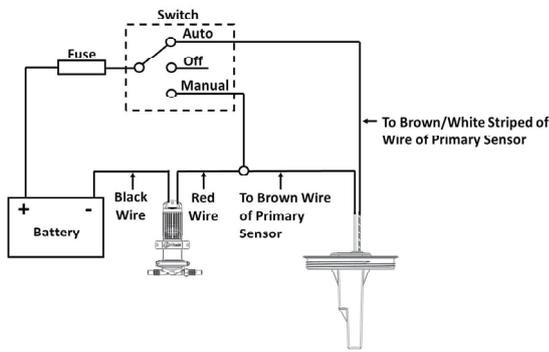
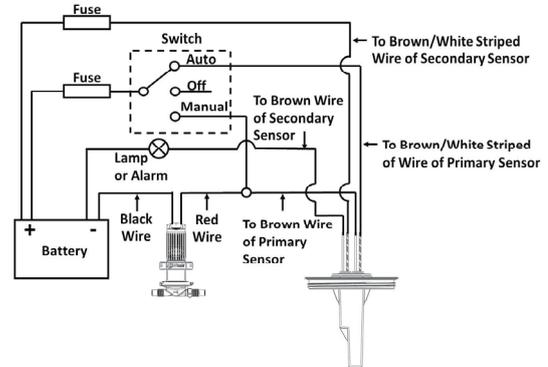

Figure 8A Wiring Diagram - for Single Sensor Models
Figure 8B Wiring Diagram - for Double Sensor Models
- **WARNING:** Installation **must** be carried out by a qualified electrician. Improper wiring can cause a fire resulting in injury or death. Suggested wiring information (Figure 8A and Figure 8B) is given as a guide only, and wiring **must** comply in accordance with the applicable electrical standards. Appropriate size fuses or circuit breakers **must** be installed.
**Step 4: Wiring:** See Figure 8A or Figure 8B.